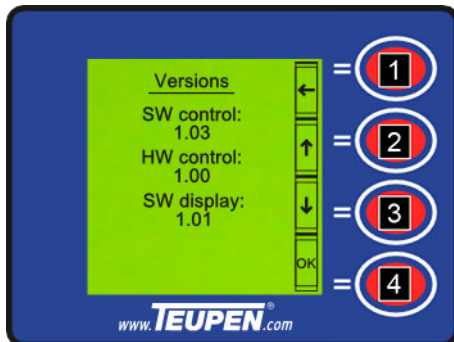

Fig. 65: Versions
- Use the [function key] (Fig. 65/1) to jump back to the 'Machine data' menu.